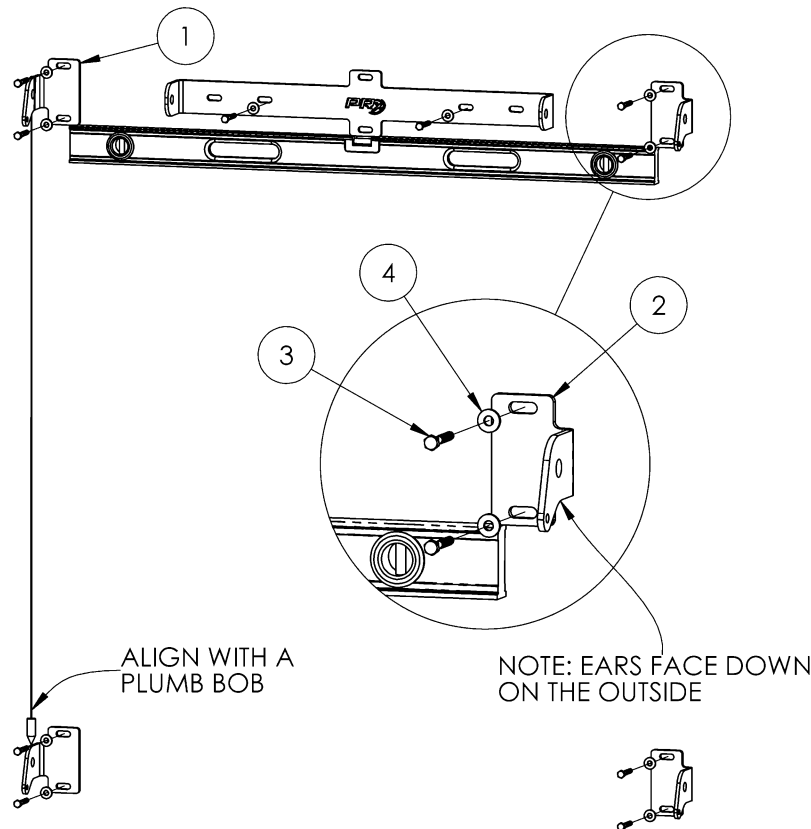

Figure 3: Installing the Wall Brackets with Lag Screws
6. Align the wall bracket over the drilled holes so the ear of the wall bracket is facing down and out. Using an impact driver and 1/2" socket, fasten the first upper wall bracket to the wall with two 5/16" lag screws (3) and washers (4) (**Figure 3**).
10. Place the 4-foot level against the bottom edge of the first upper wall bracket, span it to the next marked stud 48" away, and mark the wall once leveled (**Figure 3**).